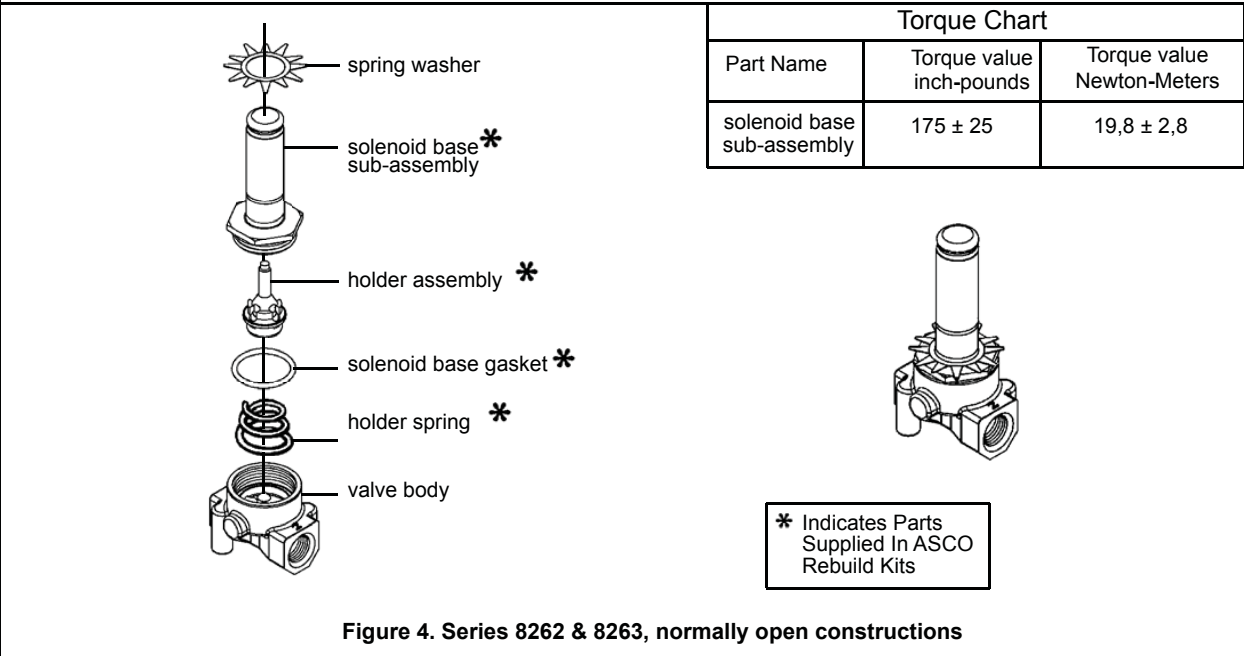

Figure 4. Series 8262 & 8263, normally open constructions
- For normally open construction (Figure 4) remove spring, and disc holder assembly.
- For normally open construction (Figure 4), install disc holder assembly and disc holder spring.
- Open-Frame Construction:** The green solenoid may be supplied with 1/4” spade, screw or DIN terminals. (Refer to Figure 4)